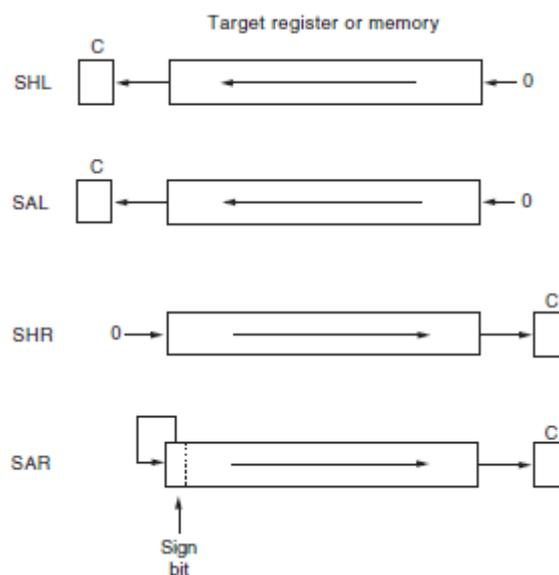

Figure 5-9: The shift instructions showing the operation and direction of the shift
- This move numbers to the left or right within a register or memory-location (Figure 5-9).